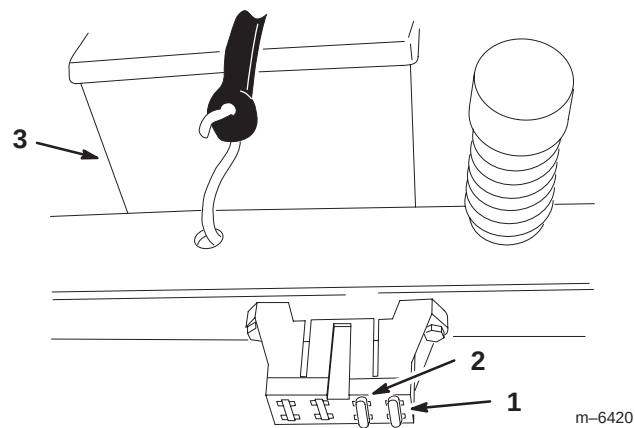

Figure 48
- Raise the seat to gain access to the fuse holder (Fig. 48).
- To replace a fuse, pull out on the fuse to remove it (Fig. 48).